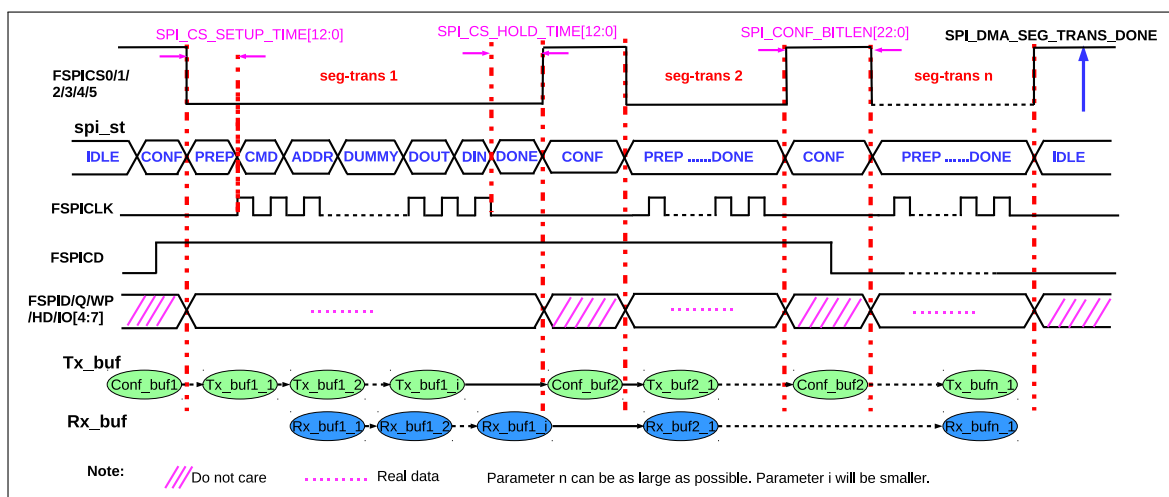
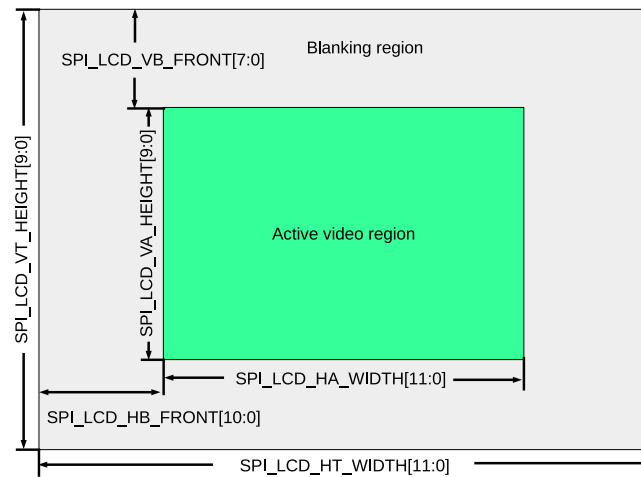
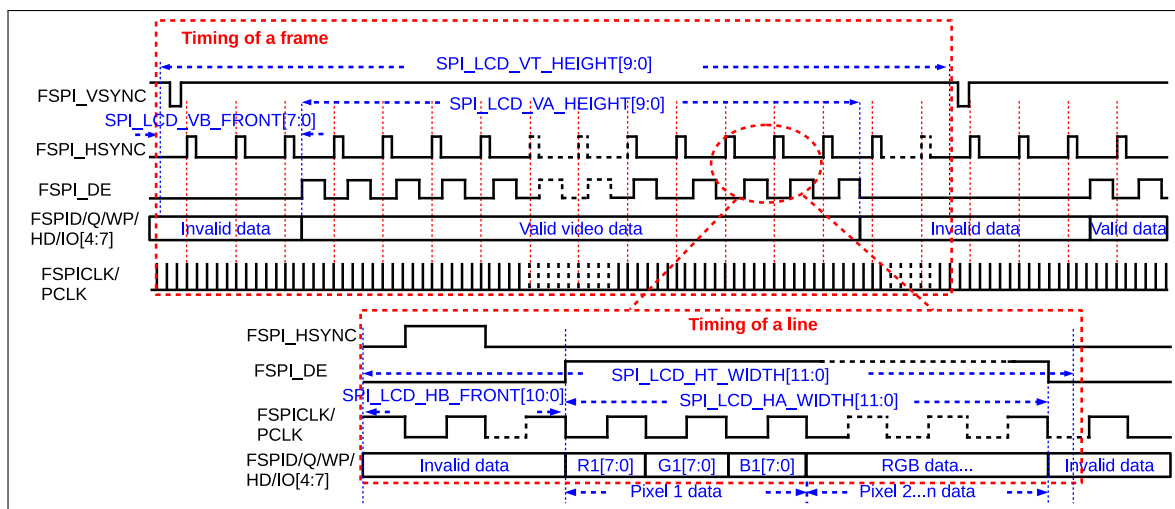

Figure 24-9. Segmented-Configure-Transfer in DMA Controlled Master Mode
Figure 24-10. Video Frame Structure in Parallel RGB 8-bit LCD Mode
Figure 24-11. Timing Sequence in Parallel RGB 8-bit LCD Mode
An SPI transfer, controlled by the registers of `GP-SPI2`, needs to be configured and triggered by the CPU. To reduce CPU cost and to increase the efficiency of `GP-SPI2`, DMA segmented-configure-transfer function is provided in DMA-controlled master mode. (Note that CPU-controlled master mode does not support segmented-configure-transfer function.) Segmented-configure-transfer enables `GP-SPI2` to do as many times of transfer as configured, with only one triggering by CPU. Figure 24-9 shows how the segmented-configure-transfer function works in DMA-controlled master mode.
As shown in Figure 24-9, `GP-SPI2` registers can be reconfigured by `GP-SPI2` hardware according to the content in a `Conf_bufi` during `CONF` state, before one single segmented-configure-transfer, `SCTi`, begins.
For example, as shown in Figure 24-9, SCT i can be configured to DMA-controlled full-duplex communication; SCT j can be configured to DMA-controlled half-duplex MISO mode; and SCT k can be configured to DMA-controlled half-duplex MOSI mode. i , j , and k are integer variables, which can be any SCT number.
Figure 24-10 shows the video frame structure of a parallel 8-bit RGB mode LCD.
It can be seen from Figure 24-9, Figure 24-10, and Figure 24-11 that a good way for GP-SPI2 to output parallel 8-bit RGB frame data is as follows:
- Data is output in each frame line in a segmented-configure-transfer. One valid video line is transferred in each single transfer (i.e. SCT_i in Figure 24-9) of segmented-configure-transfer. There are $SPI_LCD_VA_HEIGHT[9:0]$ active video region lines in a frame, so that a frame data is sent in $SPI_LCD_VA_HEIGHT[9:0]$ times of SCT_i .
GP-SPI2 can output the frame data automatically as shown in Figure 24-10 and Figure 24-11, which significantly lowers the CPU time required to control the SPI transfer. The configuration flow is as follows:
2. Configure frame control registers, as shown in Figure 24-10 and Figure 24-11, in accordance with the